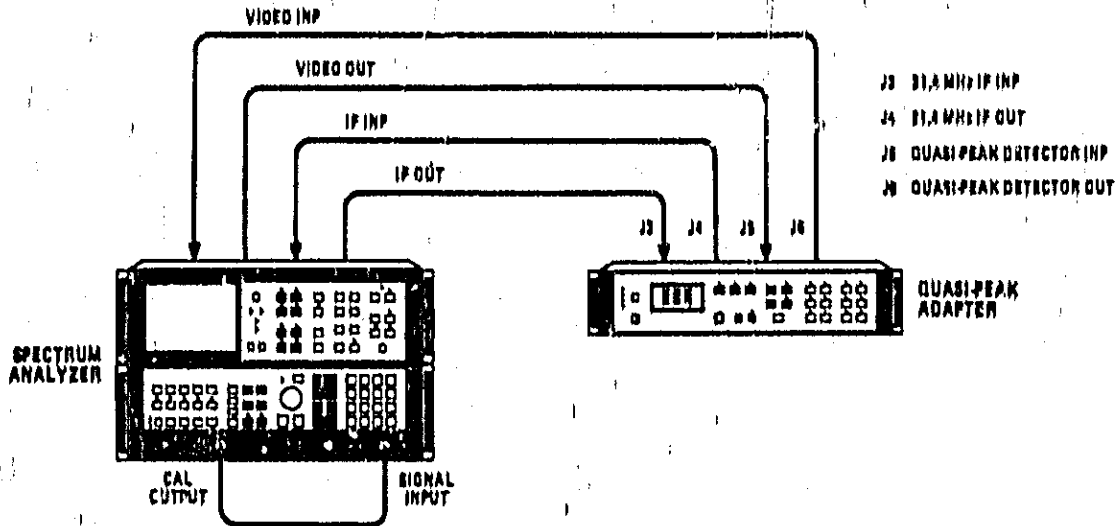

Figure 4-1. CW Amplitude Accuracy Test Setup
1. Connect quasi-peak adapter to spectrum analyzer as shown in Figure 4-1, with following modifications:
7. Remove BNC barrel and reconnect 21.4 MHz cables to quasi-peak adapter (Figure 4-1).